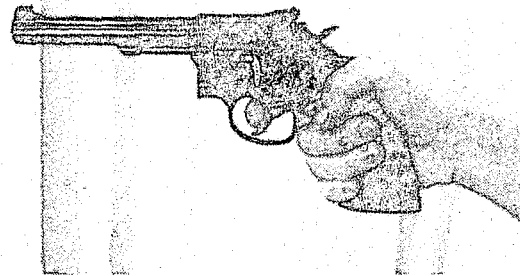

Figure 6-9
c. The trigger finger should be positioned properly for good, "straight back" trigger control (See Figure 6-9) (See Trigger Control). If it is not possible to place the finger properly, a change of grips is essential. (See Chapter II Grips).
d. The wrist should be straight and locked. (See Figure 6-9) Barrel, frame, and forearm in a straight line.